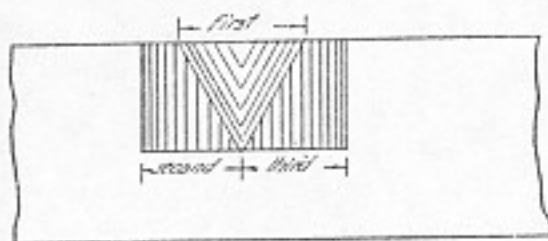

Fig. 244. Diagrammatic sketch of steps in chiseling a mortise.
13. The chisel is held perpendicularly with the bevel toward the center of the mortise which is chiseled to both ends (Fig. 244). The shavings are broken loose by pushing the handle toward the center of the mortise. A try-square placed alongside the work aids materially in making perpendicular cuts.